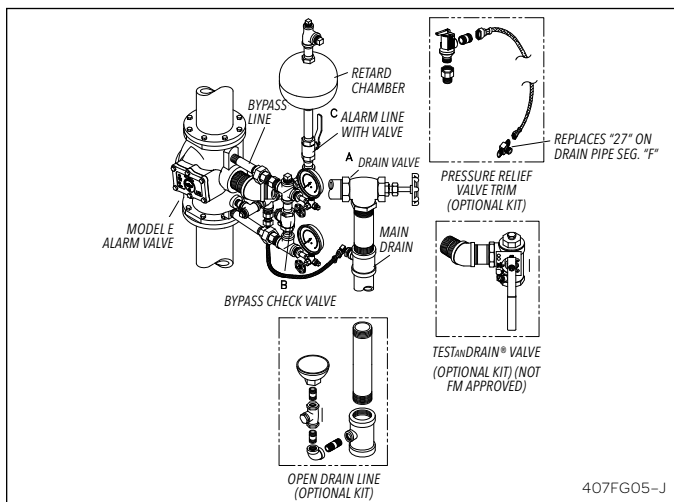
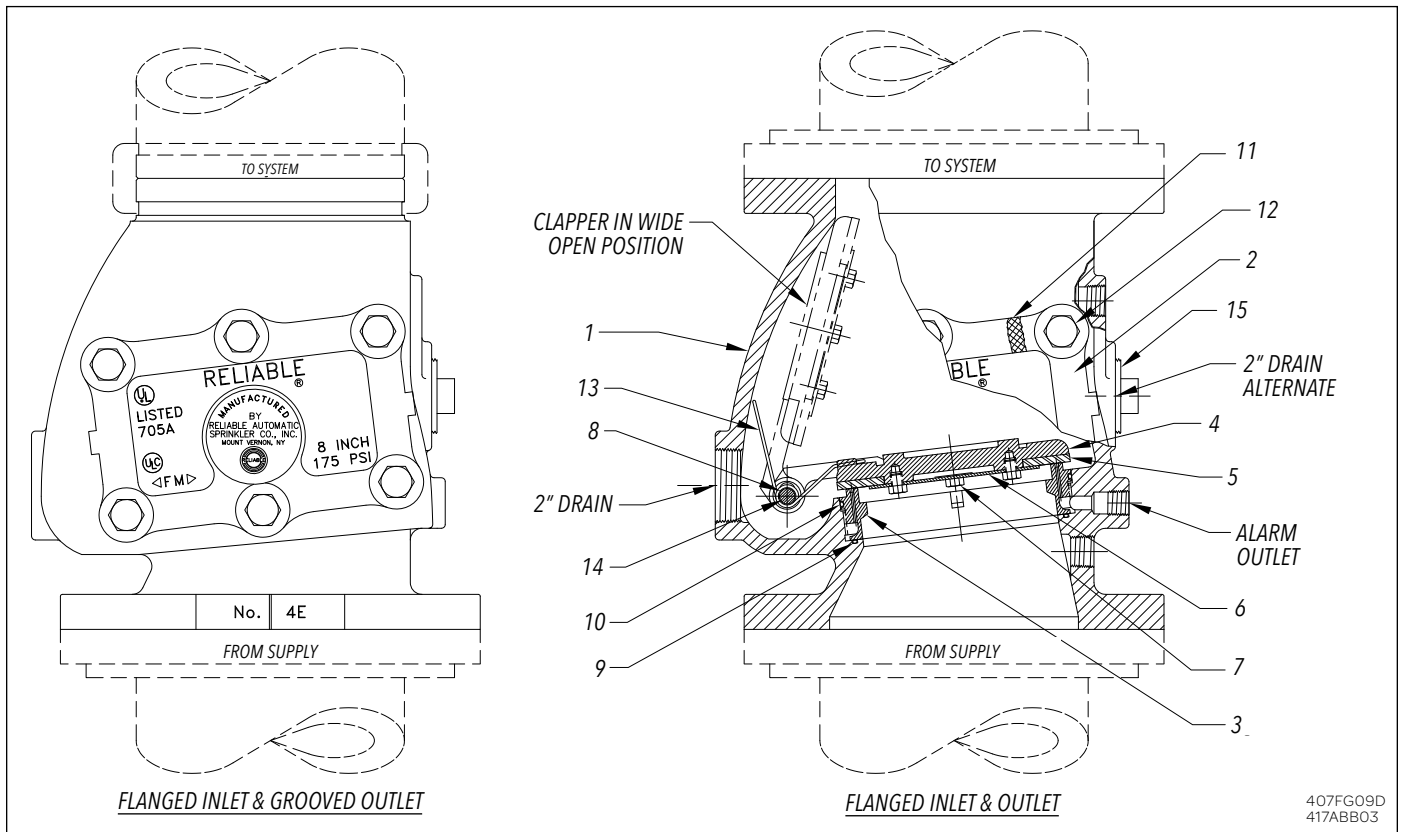

Fig. 7 – E3 Vertical Trim
Fig. 9
1. The Bypass Line, Fig. 7, with Check Valve (B) allows surges to pass from the supply to the system side of the alarm valve clapper without lifting the clapper off its seat. Repeated surges build up an effective excess pressure in the system which steadies the clapper and prevents false alarms. Should a heavy surge force the clapper off its seat and allow water to flow into the alarm line, the Model E1 Retard Chamber comes into action.
Tests (see Figs. 7 and 8)
1. Open Valve (A), Fig. 7, to drain which should flush any loose matter off alarm valve seat. Close valve and observe if water flow ceases.
- 2) Clapper Rubber Facing and Clamping Ring Assembly: Item 5, Figure 9.
- 3) Seat "O"-Rings: Items 9 and 10, Figure 9.
- c. In either case (a or b), drain system by opening Valve (A), Figs. 7 and 8 to drain. Remove Cover (2), Fig. 9, Shaft Pipe Plug (14), Hinge Pin (8) and Clapper Assembly (4).
- 2) Remove "O"-Rings, Items 9 and 10, Fig. 9. Thoroughly clean "O"-Ring grooves and sealing surfaces. Inspect for damage or foreign material.
- 3) Replace Cover (2) being sure Cover Gasket (11) is in position and bolts and nuts are securely tightened.
- 4) Close Drain Valve (A), Fig. 7. Slowly open main control valve. Be sure Valve (C) and the main control valve are properly supervised in the OPEN position.
False alarms are generally caused by pressure surges in the water supply and can occur if the system loses its effective excess pressure (see "Operation"). Similar readings on the system and supply pressure gauges are a visual indication that the excess pressure condition has been lost. One or more of the following will contribute to this loss of pressure – Leaking system drain valves, leaking at the Alarm Valve Seat (3), Fig. 6, leaking between the Clapper (4) and the Facing (5), or leaking at the Bypass Check Valve (B), Fig. 7.